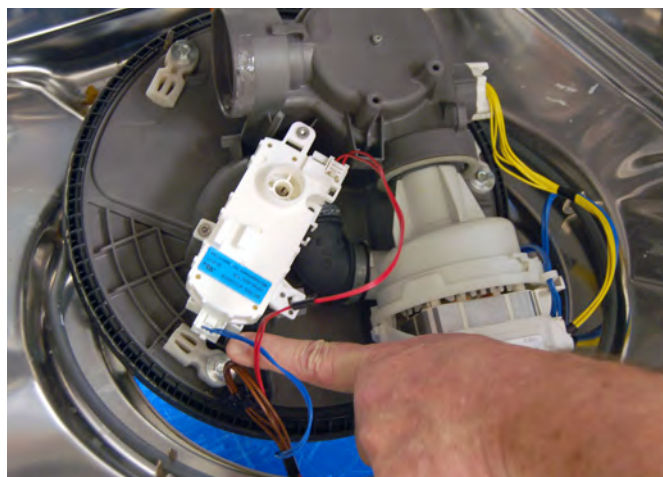

Figure 16
11. Unplug the diverter motor harness, see figure 16.